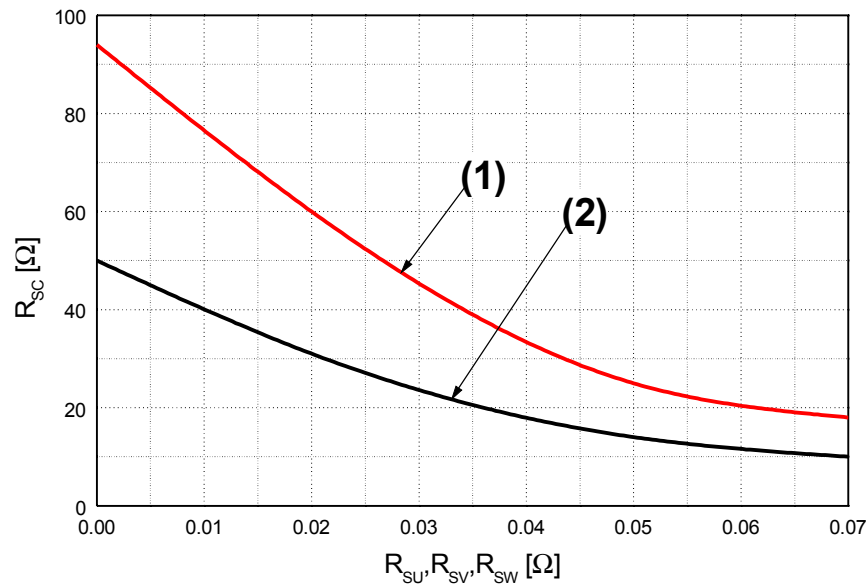

Fig. 7. R_{SC} Variation by change of Shunt Resistors (R_{SU} , R_{SV} , R_{SW}) for Short-Circuit Protection
5. Short-circuit current protection is functioning only at the low-sides. It would be recommended that the value of the external sensing resistor (R_{SC}) should be selected around 50 Ω in order to make the SC trip-level of about 30A at the shunt resistors (R_{SU}, R_{SV}, R_{SW}) of 0 Ω . For the detailed information about the relationship between the external sensing resistor (R_{SC}) and the shunt resistors (R_{SU}, R_{SV}, R_{SW}), please see Fig. 7.